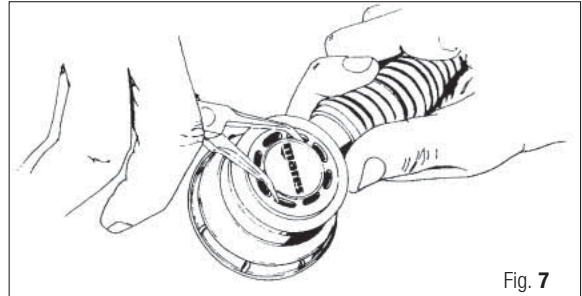

Fig. 7
18. Remove anchoring bushing (47) from actuating cable (66).
19. With suitable pliers, cut clamp (59) and remove the corrugated hose (60) from the RE valve (F).
20. Unscrew the RE cap (69) and remove (Fig. 7).
21. Remove the exhaust diaphragm (6) and housing (7) from RE cap (69).